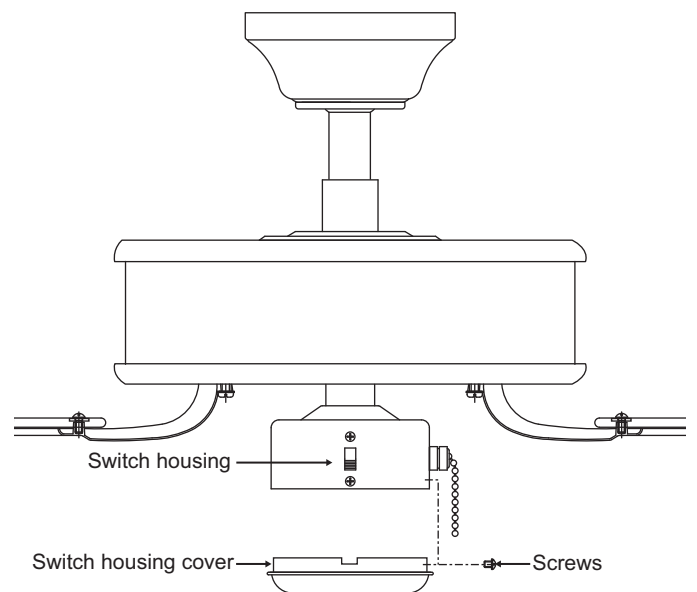

Figure 19
2. Carefully push all wires back into the switch housing, then install the switch housing cover onto the switch housing with 3 screws provided. Be sure to tighten all screws. (Fig. 19)